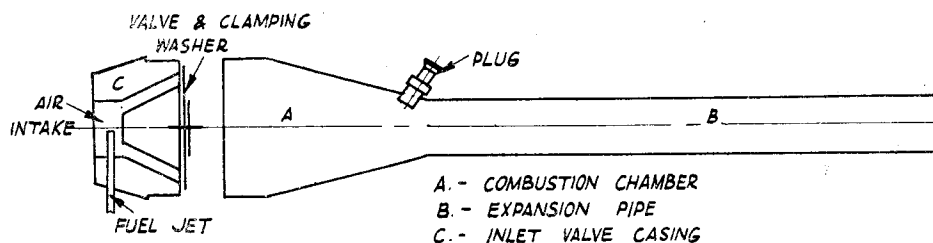
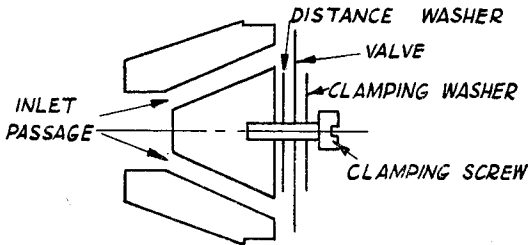

Fig. 1. Section through resonance motor
Fig. 2. Section through inlet casing
Figs. 2 and 3 give method of fixing
three-sided box to concentrate the light upon the print and should be so placed that they just *cannot* be seen when one looks into the episcopes from outside through the lens. Held lightly in position by bent aluminium strips and slides, each mirror must be "lined up" so that it is just on a line running from the periphery of the lens to the relative edge of the picture aperture; then keeping the edge nearest the lens still, swing the mirror carefully about until it is just out of sight when looking in through the lens. After marking the positions the mirrors can then be permanently fitted into place. The method of fitting is shown in Figs. 2 and 3 in the drawing.
*Ventilation holes*, a row of small ones,  $\frac{1}{2}$  in. diam. Large lamp vent,  $2\frac{1}{2}$  in. diam. (See Fig. 1.)
Before designing a resonance motor it is well to have a knowledge of the fundamentals and principles on which these motors operate. They are so simple to look at, but, believe me, that simplicity is very deceiving, and certainly ends with appearance. Referring to Fig. 1, we see that primarily the motor consists of a hollow combustion chamber joined to an expansion pipe. In the front of the combustion chamber is situated an inlet valve casing incorporating a spring-steel non-return flap valve which covers the fuel admission holes in the said casing. There is also some form of fuel supply and mixing chamber, and this can be fitted to the inlet casing. In addition to the above items, and for starting purposes only, a spark plug is screwed into the combustion chamber. It is so arranged that the spark plug is wired to the high tension lead of a continuously sparking coil similar to the old Ford T-type or a multi-cylinder magneto. A good fat spark for starting is essential.
diameter as the clamping washer. This can be removed if the valve is O.K. (See Fig. 2.)
The layout of the total equipment is shown in the block diagram in Fig. 1, and its disposition in boat in Fig. 2. Referring to Fig. 1 the operation is as follows: